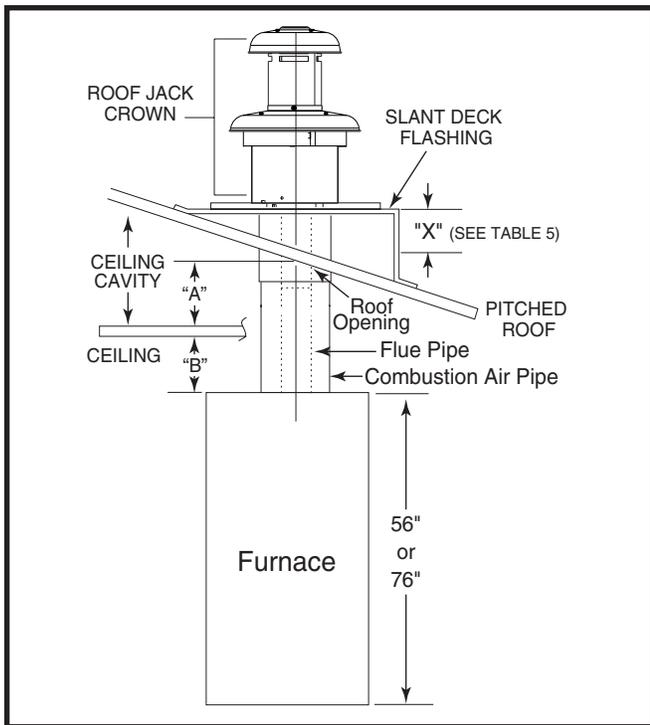

Figure 17. Ceiling Cavity Depth
1. Determine depth of ceiling cavity from center of roof opening to center of ceiling opening noted as "Dimension A" in Figure 17 \(page 11\).
2. Determine ceiling height and subtract height of furnace noted as "Dimension B" in Figure 17.